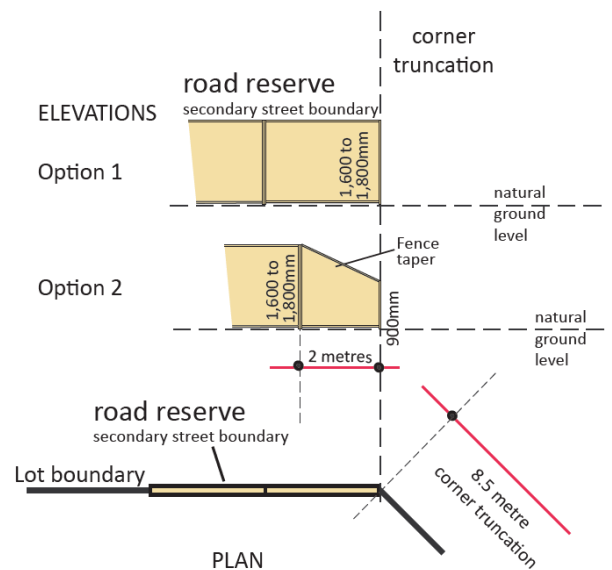

FIGURE 2
- Secondary street vehicle access is only permitted on certain corner lots, once approved by the Shire. Refer Figure 2.